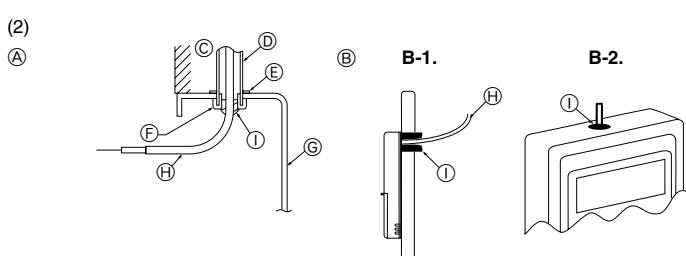

Fig. 6-3
- (1) Select an installing position for the remote controller. The temperature sensors are located on both remote controller and indoor unit.
- (2) Seal the service entrance for the remote controller cord with putty to prevent possible invasion of dew drops, water, cockroaches or worms. (Fig. 6-3)